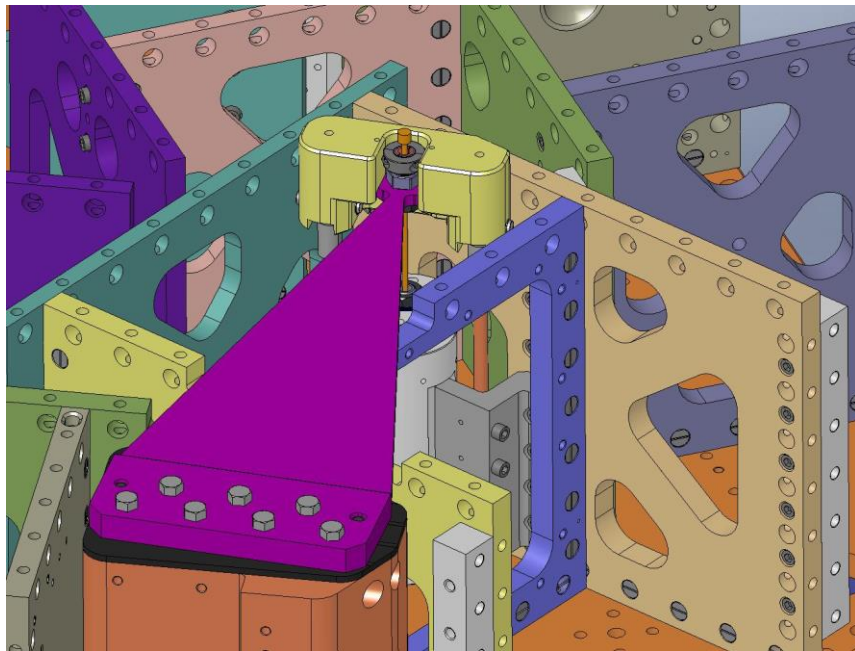

Figure 4.103. Shaft collars will be used to clamp the top of each Flexure to its Flexure Mount. The screw heads must face outward.
- Place a **D0900207** shaft collar with *silver-plated* screws around the top of each **Flexure Mount**, as shown in Figure 4.103. Leave the collar loose, so the **Flexure** can slip in and out of the **Flexure Cups** without a lot of force.